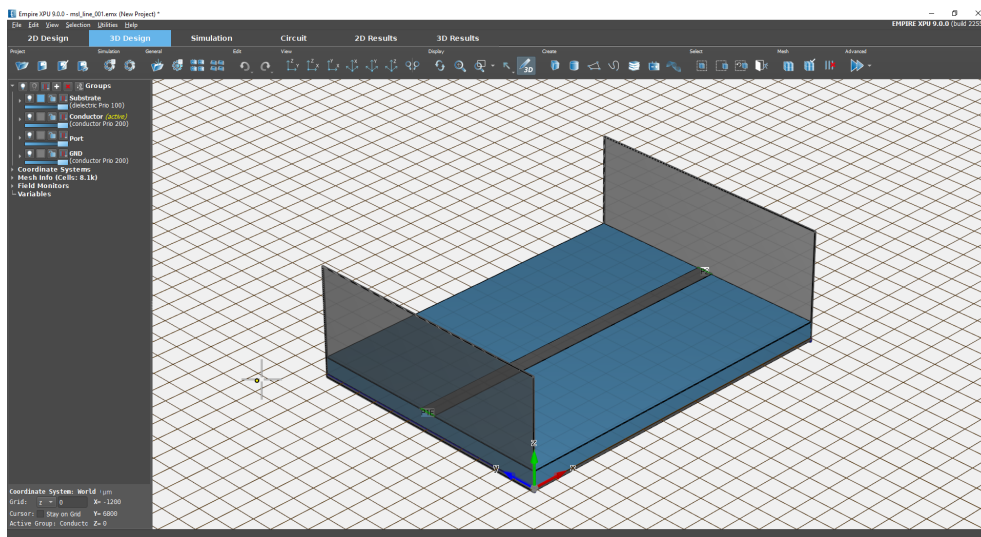

Figure 3.2.: EMPIRE XPU™ Standard Template
- Check: If the MSL line example is visible, see Figure 3.2, the OpenGL graphic is working